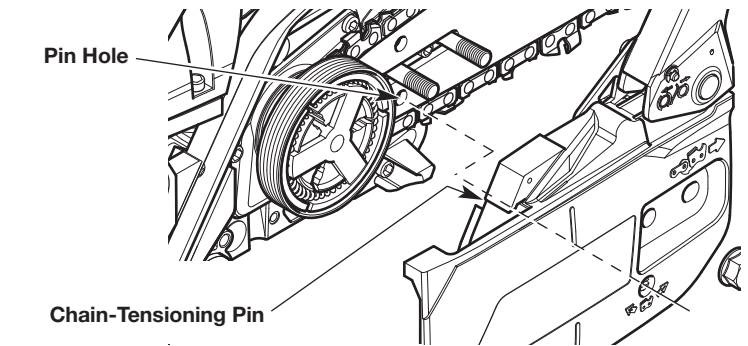

Fig. 32
4. Install the bar cover. Make sure the chain-tensioning pin is in the pin hole on the guide bar (Fig. 32).